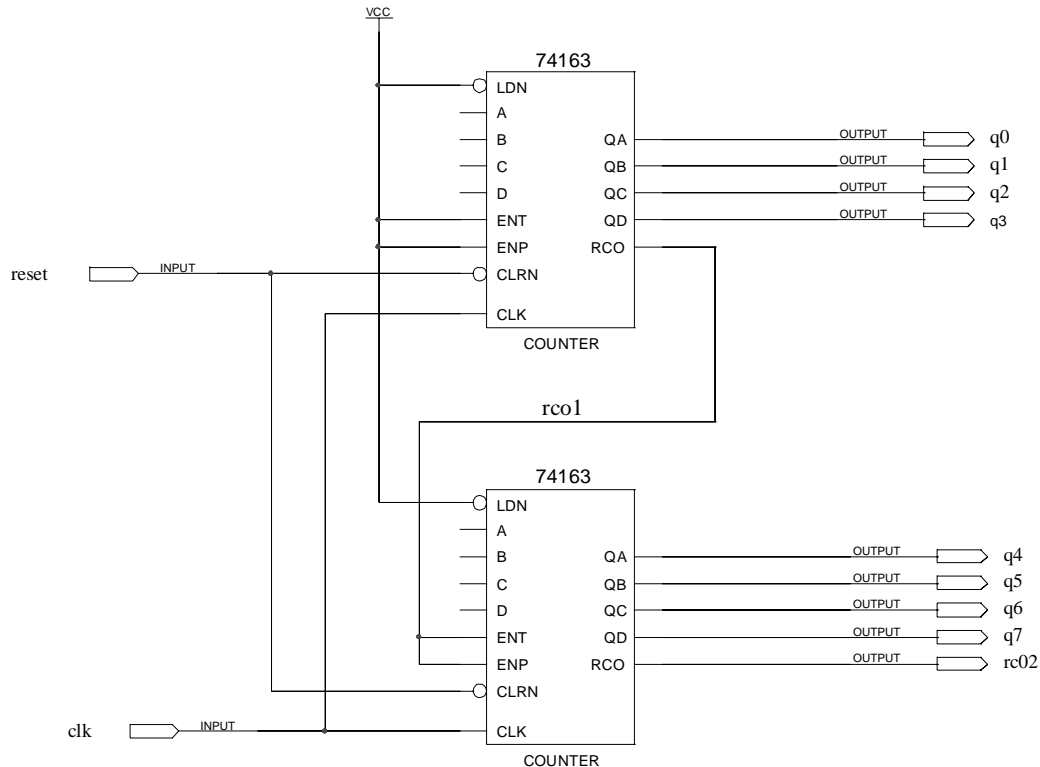

FIGURE 1. Simple 8-bit Counter
- Wire the two 74163 components into an 8-bit counter circuit as shown in Figure 1.
- Place **input** and **output** components on the schematic as shown in Figure 1.
- Label the RCO output which connects to the ENT and ENP inputs of the other 74163 component as "rco1" as shown in Figure 1. We want to label this internal net so that we can view a trace of this signal during simulation.
- Label the input and output pins by double-clicking the LMB on PIN_NAME and typing the name for each pin as shown in Figure 1.